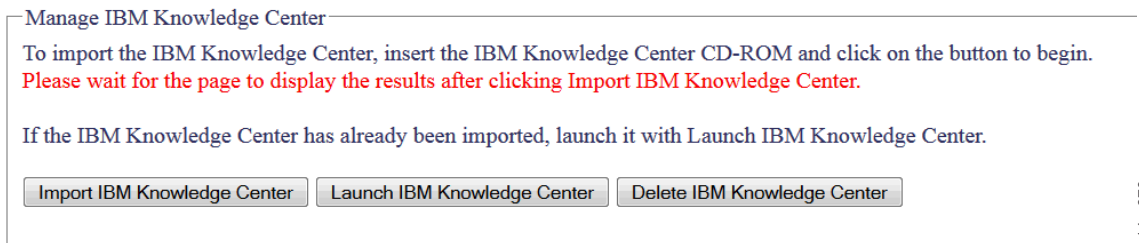

Figure 251. Manage IBM Knowledge Center from web interface
4. Select **System Tools > Manage IBM Knowledge Center**. You see Figure 251.